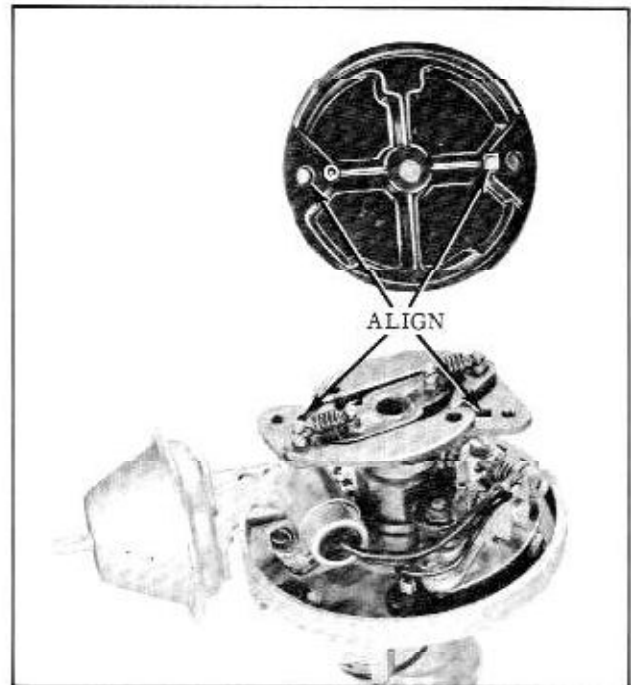

Fig. 13-62 Rotor Installation
1. Install rotor, aligning round and square lugs shown in Fig. 13-62.